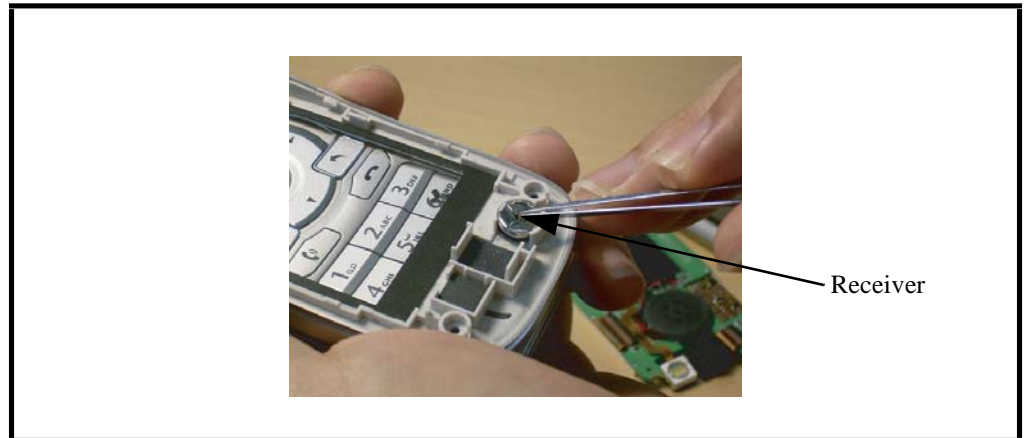

Figure 14. Removing the Receiver
2. Use a tweezers to remove the receiver from the front case as shown in Figure 14.